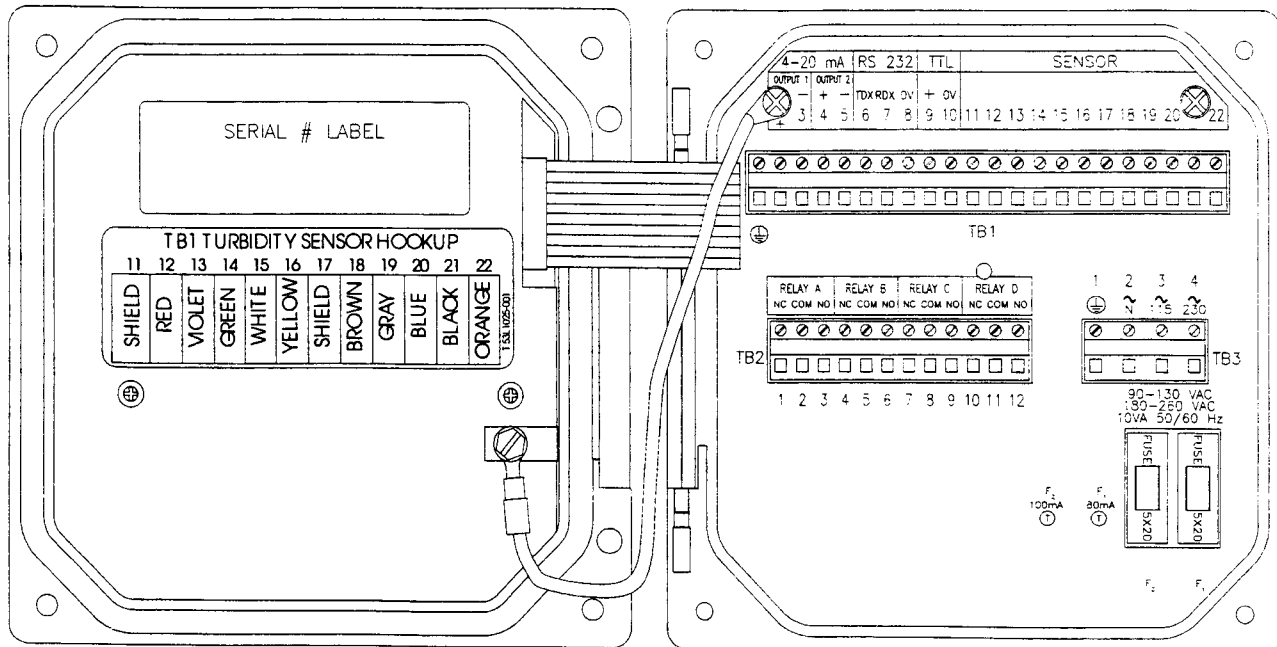

FIGURE 2-9 Terminal Block Designations for Analyzers with No Letter Prefix Serial Number
- The "ground symbol" Terminal 1 on TB1 (Figure 2-9) for analyzers with no letter prefix serial number.